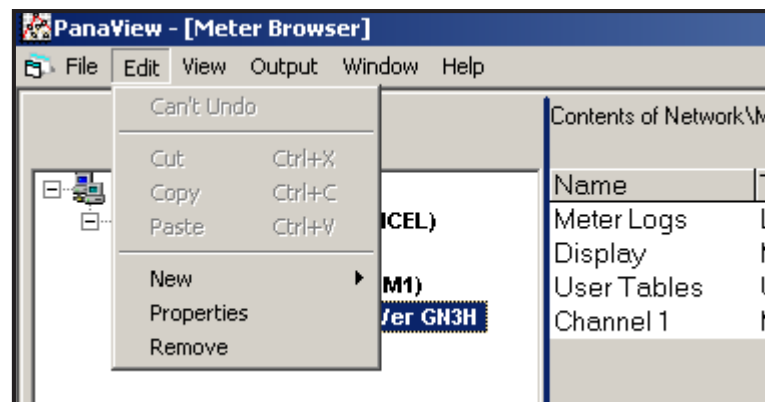

Figure 25: *Properties* Option in the *Edit* Menu
2. Open the “*Edit*” menu and select the “*Properties*” option, as shown in Figure 25.